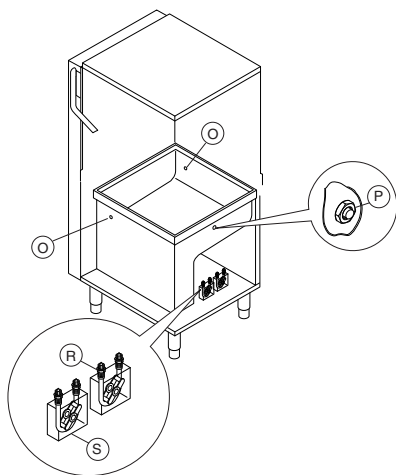

Figure 10
1. Dishwasher with incorporated detergent dispenser pump (Figure 10).
2. Dishwashers with incorporated peristaltic rinse-aid dispenser pump (Figure 10).
Connections for automatic detergent dispenser (Figure 10)